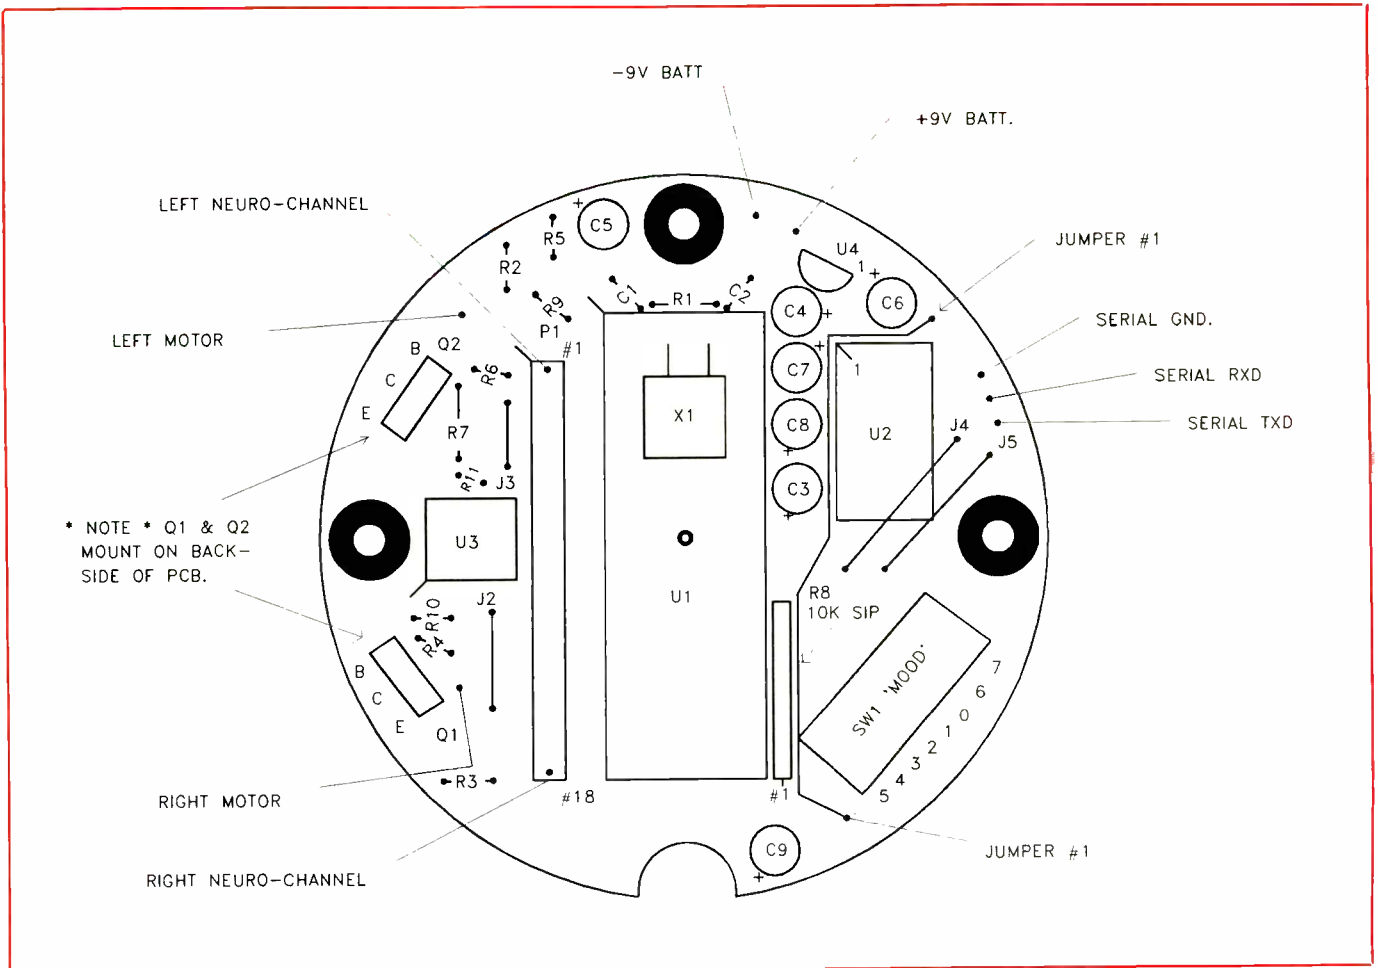
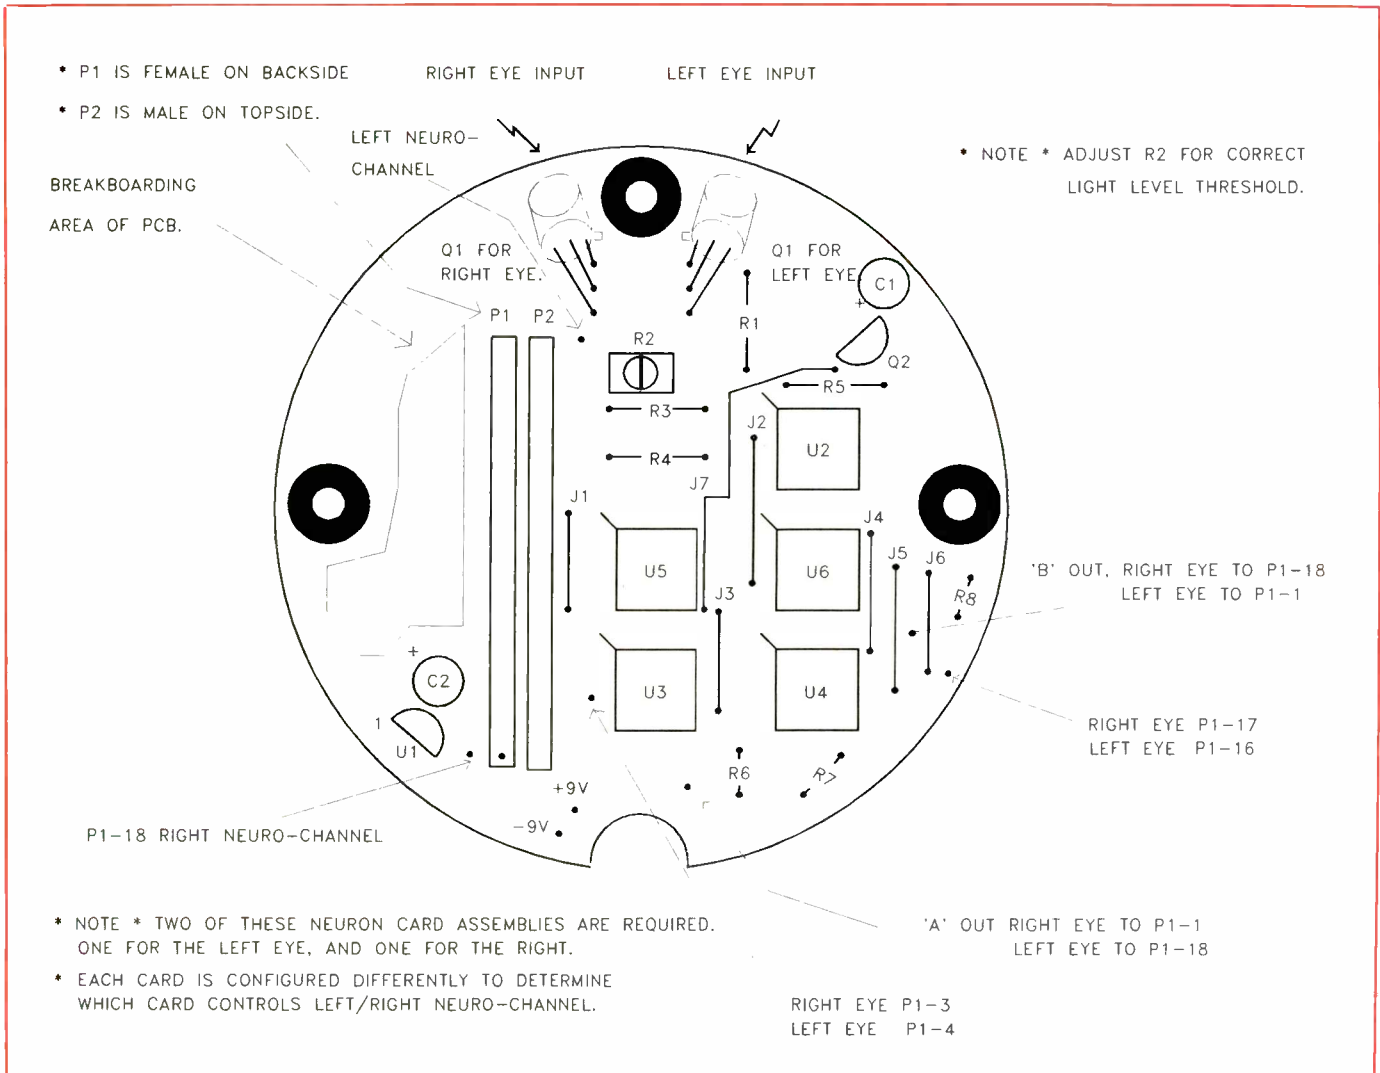

Fig. 7. Wiring details for Mood and Reflex Card.
Fig. 8. Wiring details for Optical Neuron Card.
Referring to Fig. 7 for the board depicted in Fig. 6(A) and Fig. 8 for the board depicted in Fig. 6(B), begin populating the cards. Remember that there are two Fig. 6(B) Eye Neuron cards. However, start wiring with the Mood and Reflex Card. Mount and solder into place a 40-pin socket in the U1 location.
and right operation by jumpering them per instructions given in Fig. 7 and Fig. 8. These jumpers let the microprocessor address the appropriate cards, while on the same data bus.